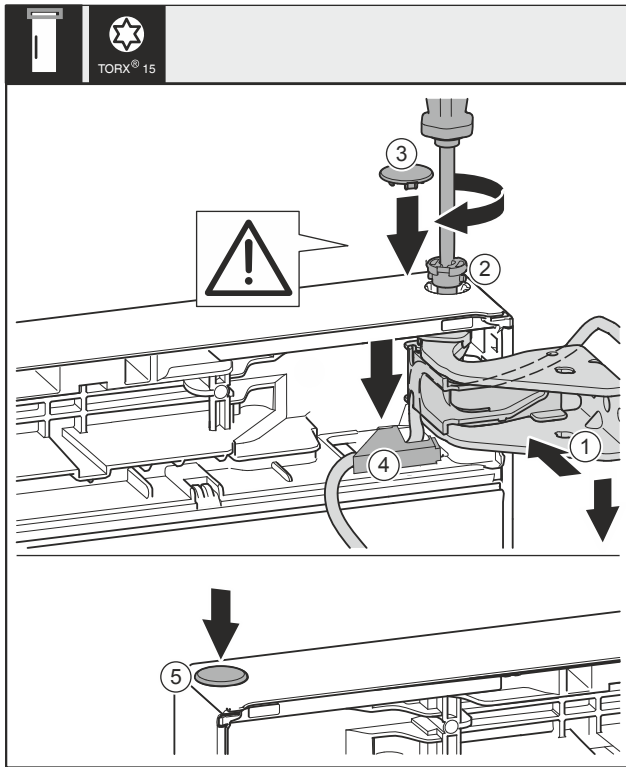

Fig. 38
- ▶ Align the door on the top towards the opening in the swap bearing block Fig. 38 (1).
- ▶ Insert the pin Fig. 38 (2) and tighten it with the screwdriver.
- ▶ Mount the safety cover to protect the door: Insert the safety cover Fig. 38 (3) and check whether it is positioned on the door. If so, insert the pin completely.
- ▶ Insert the cover Fig. 38 (4) and press it down until it snaps down.
- ▶ Insert the plug. Fig. 38 (5)